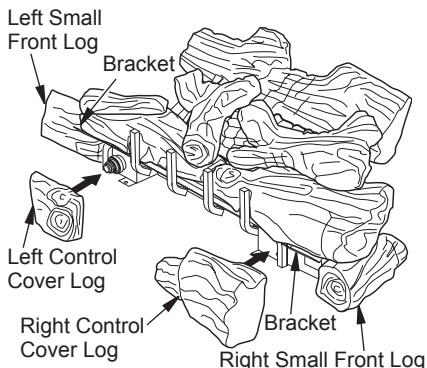

Figure 28 - Installing VUL36 Model Control Cover Logs
7. For VUL36 models, the front right and left logs are longer and are supported with brackets on each end (see Figure 28, page 20). Place left and right small front logs under left bracket and beside right bracket.
8. For VUL36 models, position left and right control cover logs as shown in Figure 28, page 20. These may be placed as desired to hide controls.